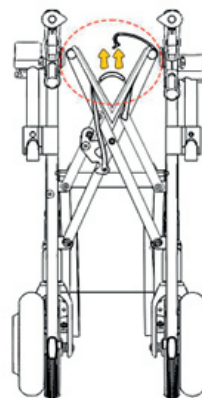

FIGURE 14
e. To fold the multifunctional 3N1 Electric rollator grasp the safety release handle on the seat and lift. This will release the safety lock located under the seat. (Figure 14)